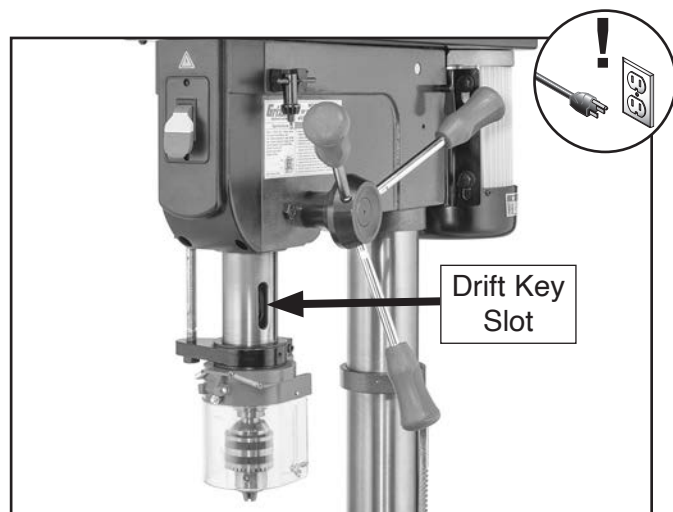

Figure 28. Drift key slot exposed.
2. Rotate downfeed handles until drift key slot is exposed in side of quill (see **Figure 28**).